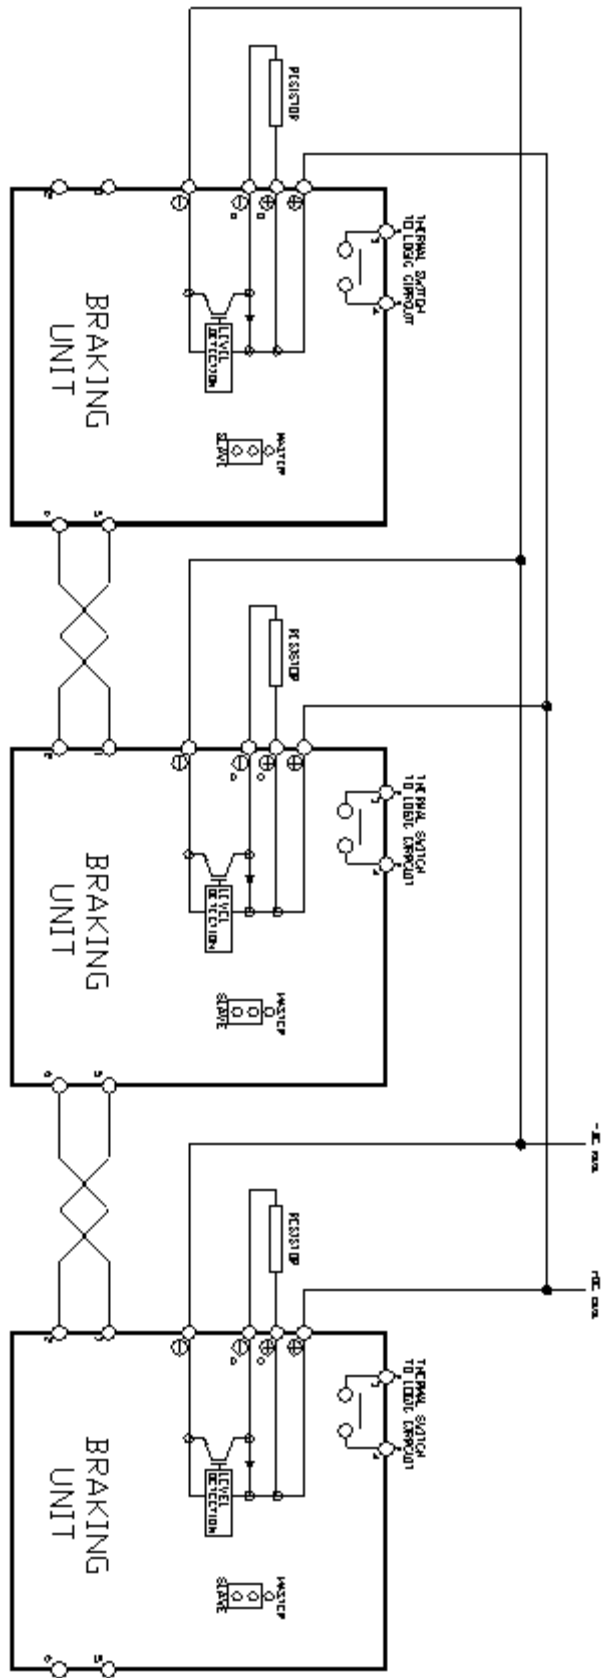

Figure 1-4: CDBR-B Parallel connection of Braking Unit
7. Terminals 1, 2, 5 and 6 are used for **MASTER/SLAVE** Operation. Use twisted-pair wires of 14 AWG or smaller for connection between 5, 6, and 1, 2 on the braking units. Parallel connection is possible up to a maximum of 10 units. Refer to Figure 1-4 (page 1-14) for parallel connection of braking units.